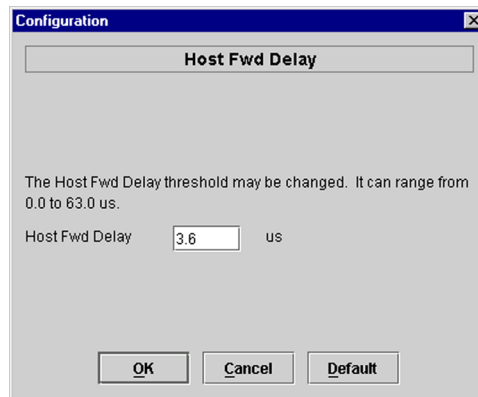

Figure 4-15. Host Fwd Delay Pop-Up Screen
2. Right-click on the **Host Fwd Delay** section of the display (see Figure 4-14). The **Host Fwd Delay** pop-up screen will open as shown in Figure 4-15.